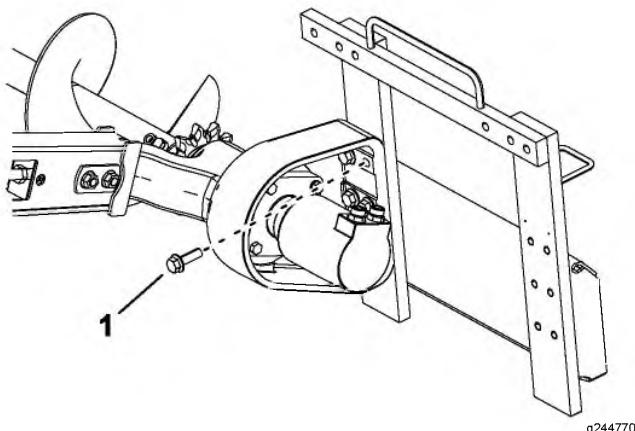

Figure 8
1. Bolt (6)
5. Attach the head to the frame with the 6 bolts removed previously (Figure 8).